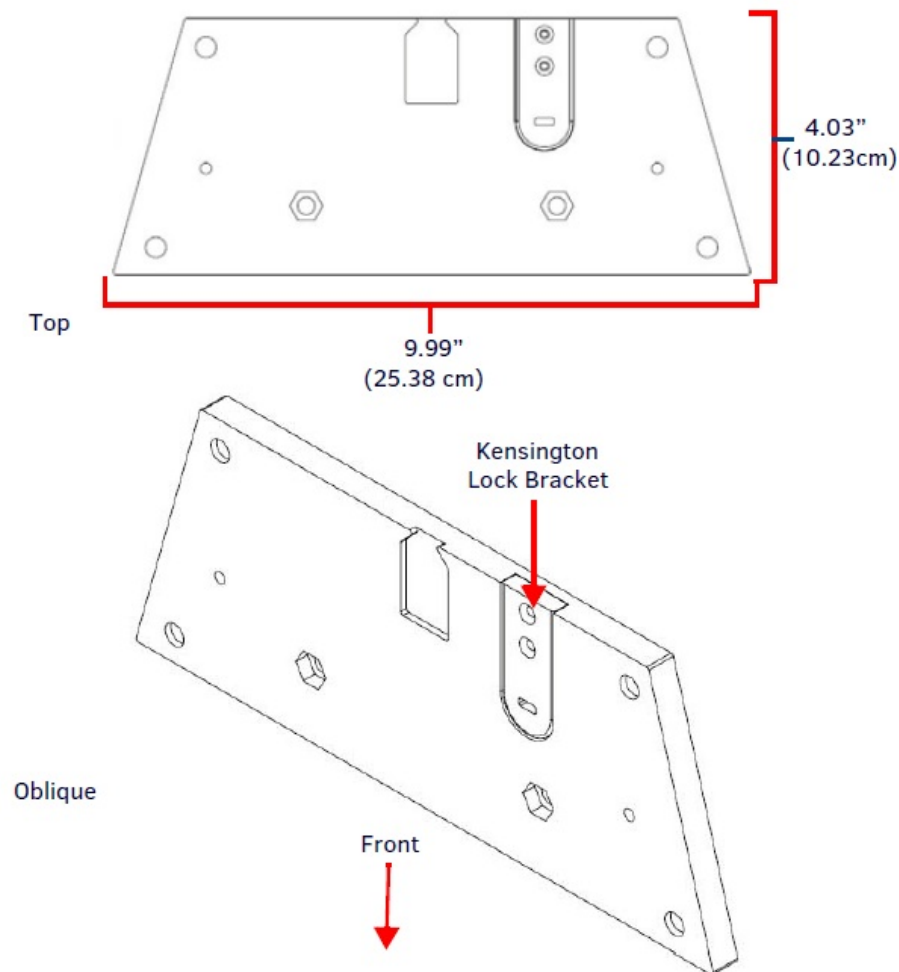

FIG. 1 MSA-STMK-10 SECURE TABLE MOUNT KIT
The MSA-STMK-10 Secure Table Mount Kit (FG2265-16) is a beautifully styled plate that, when attached to the Modero S MST-1001 10.1" Tabletop Touch Panel (FG2265- 05) and secured with the under-table tamper-resistant bolts, which will make it virtually theftproof (FIG. 1). If drilling into the table is not feasible, the secure mounting plate can be attached to the touch panel (but not the table) and then secured with a Kensington® Lock. Both methods may be used simultaneously for extra security.
1. On the security mount base (FIG. 1), loosen the two screws holding the Kensington Lock bracket to the base (FIG. 6) and remove the bracket.